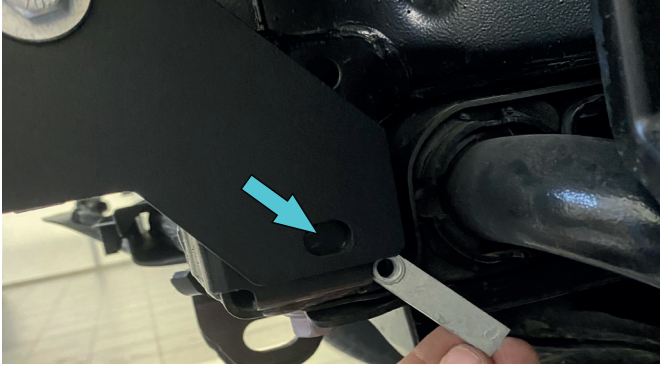

Fig.19
19. Install insert nuts M8 (item A) into hole of OE frame as shown in fig.19, on both sides of the vehicle.